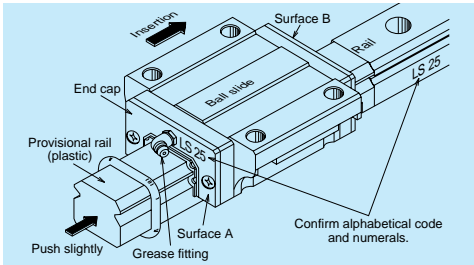

Fig. II-9-23 Inserting interchangeable ball slide into the rail
- Interchangeable ball slide is assembled on a provisional rail (an inserting tool) when it is delivered (Fig. II-9-23).
- ③ Align the provisional rail to the rail in the bottom and side faces. Press the provisional rail lightly against the rail, and move the ball slide over the rail (Fig. II-9-23).